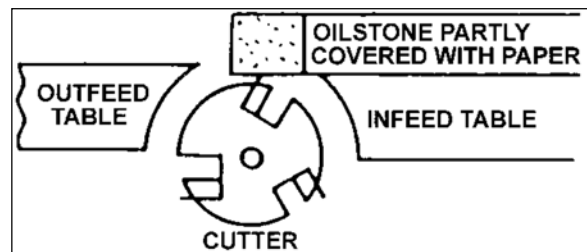

Figure 26
3. To protect the infeed table from scratches, partially cover the sharpening stone with paper (Figure 26).